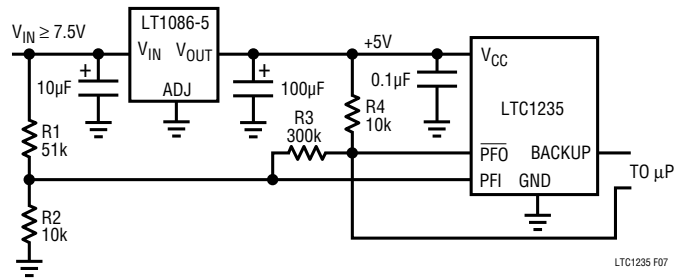

Figure 8. Monitoring *Unregulated* DC Supply with the LTC1235 Power Fail Comparator
The LTC1235 generates a Power Failure Output ( $\overline{\text{PFO}}$ ) for early warning of failure in the microprocessor's power supply. This is accomplished by comparing the Power Failure Input (PFI) with an internal 1.3V reference.  $\overline{\text{PFO}}$  goes low when the voltage at PFI pin is less than 1.3V. Typically PFI is driven by an external voltage divider (R1 and R2 in Figures 8 and 9) which senses either an unregulated DC input or a regulated 5V output. The voltage divider ratio can be chosen such that the voltage at PFI pin falls below 1.3V several milliseconds before the +5V supply falls below the maximum reset voltage threshold 4.75V.  $\overline{\text{PFO}}$  is normally used to interrupt the microprocessor to execute shut-down procedure between  $\overline{\text{PFO}}$  and  $\overline{\text{RESET}}$  or RESET.
The power fail comparator, C3, does not have hysteresis. Hysteresis can be added however, by connecting a resistor between the  $\overline{\text{PFO}}$  output and the noninverting PFI input pin as shown in Figures 8 and 9. The upper and lower trip points in the comparator are established as follows:
**Example 1:** The circuit in Figure 8 demonstrates the use of the power fail comparator to monitor the unregulated power supply input. Assuming the the rate of decay of the supply input  $V_{\text{IN}}$  is 100mV/ms and the total time to execute a shut-down procedure is 8ms. Also the noise of  $V_{\text{IN}}$  is 200mV. With these assumptions in mind, we can reasonably set  $V_L = 7.5V$  which 1.25V greater than the sum of maximum reset voltage threshold and the dropout voltage of LT1086-5 (4.75V + 1.5V) and  $V_{\text{HYSTERESIS}} = 850mV$ .